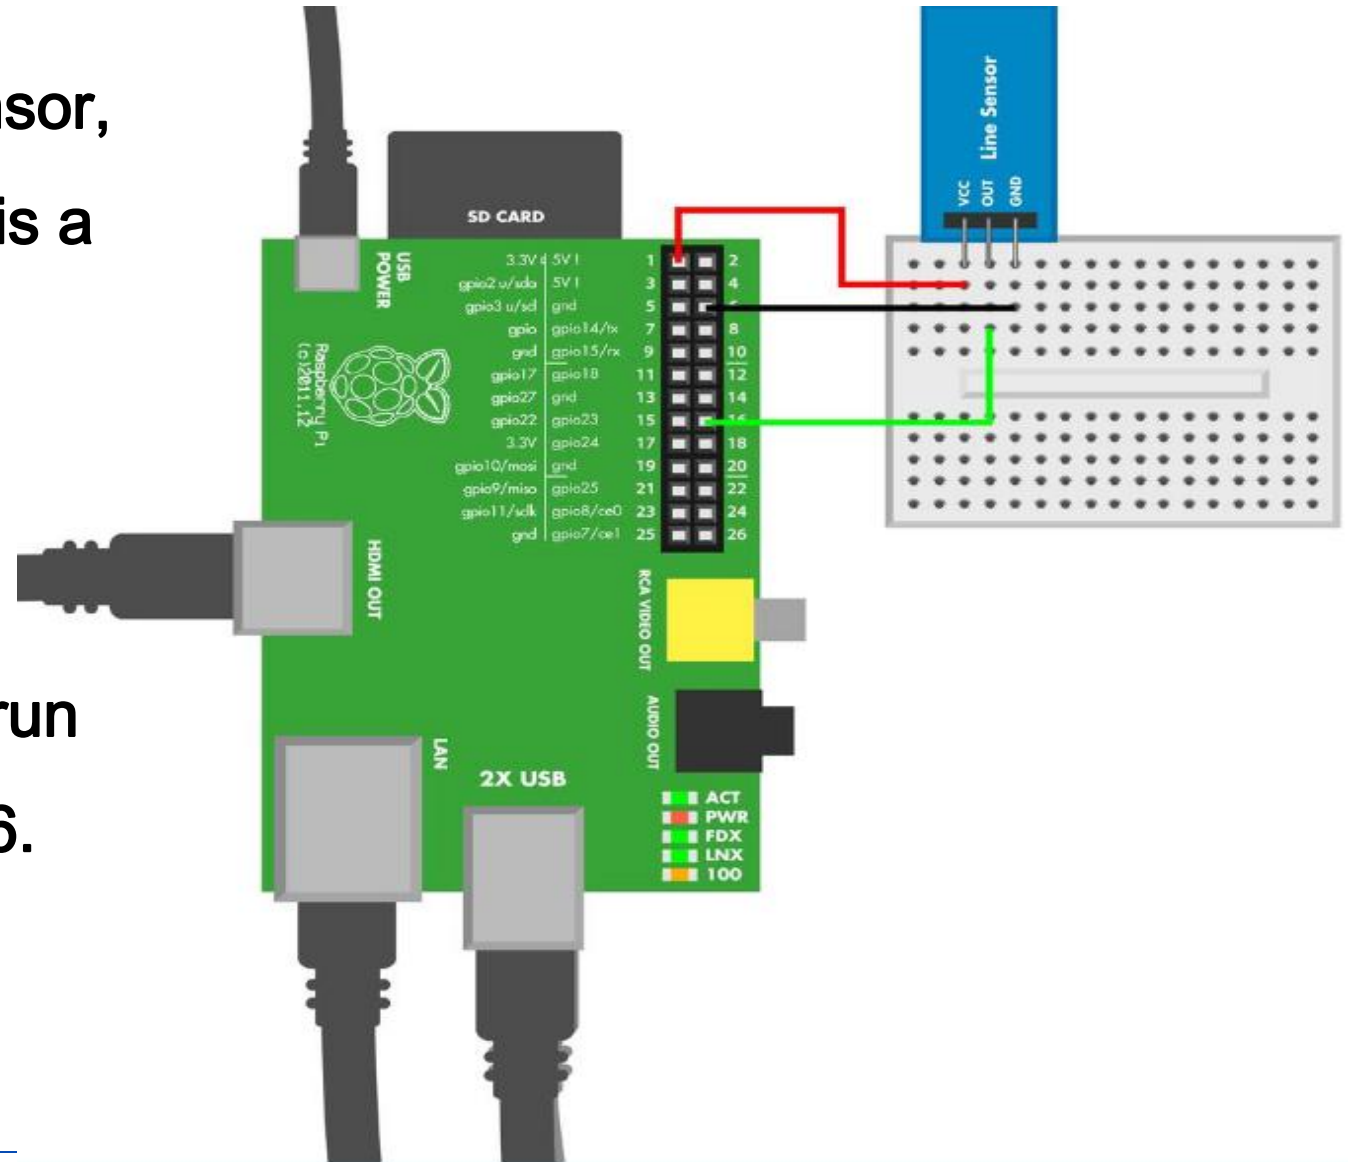

Figure 7-16. Line sensor circuit for Raspberry Pi
- Figure 7-16 shows the circuit diagram.